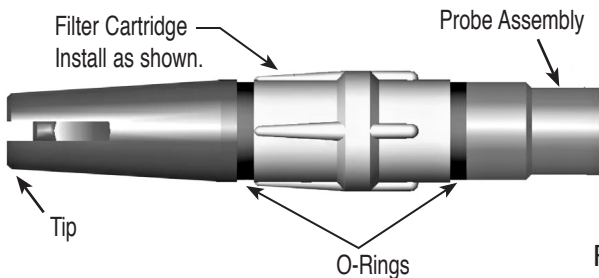

Fig. 9
The pointed tip of the flexible probe is removable for cleaning and access to the filter cartridge (see Figure 9). Once the tip is removed, access to the filter cartridge is possible.
3. Install new filter cartridge to the probe with pointed ends of the raised ribs oriented toward the tip. See Figure 9.